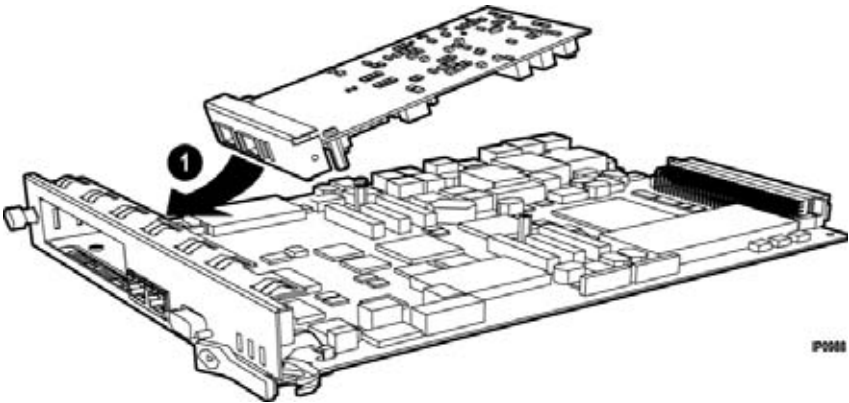
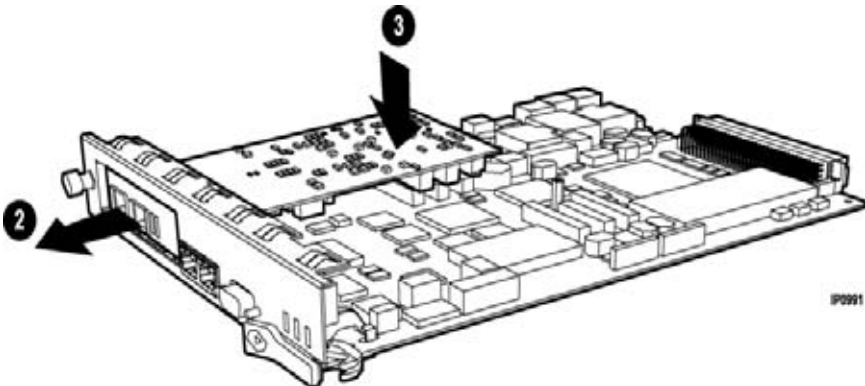

Figure 13: Position module at an angle (AX)
Figure 14: Slide in and seat module (AX)
6. Carefully slide the MMC face plate under the lip of the controller face plate. See Figure 13. Do not push the MMC past the controller face plate as shown in Figure 14.